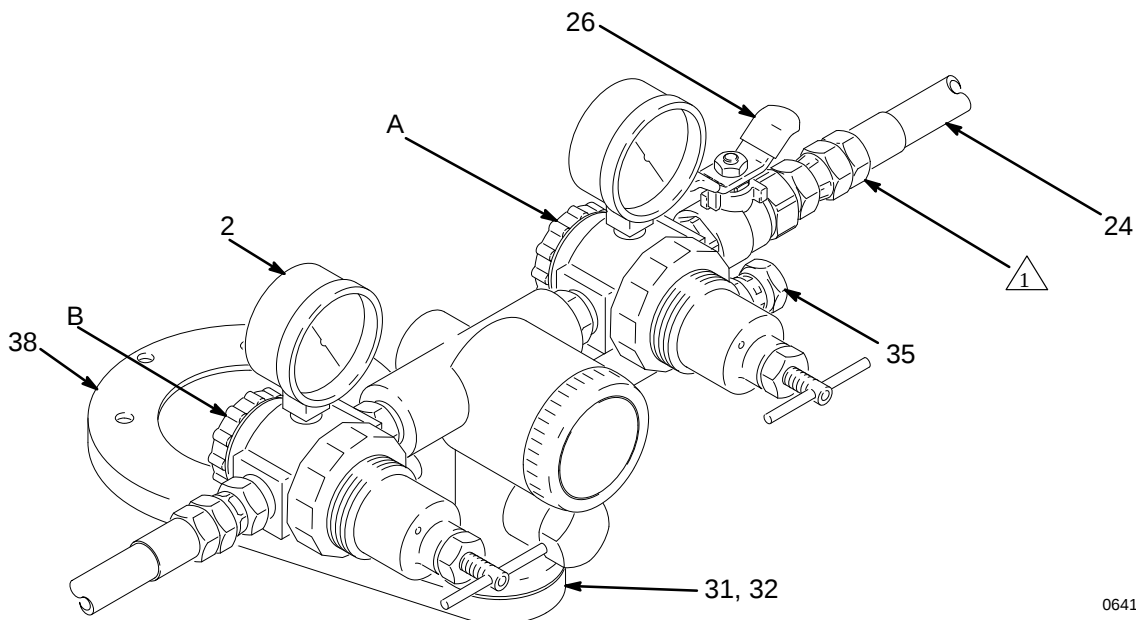

Fig. 1
Note: Numbers and letters in parenthesis in the text refer to callouts in Fig. 1 and the parts drawing.
1. Mount the Evenflo® Control. (See Fig. 1)
- a. To mount the Evenflo® Control to the pump, use screws (28) to attach the mounting plate (38) to the pump base. Remove the screw (31) and lockwasher (32) from the control (1), and position the control over the small hole of the plate. Secure the control to the plate with the screw and lockwasher.
- b. To mount the Evenflo® Control directly to a covered drum, remove the screw (31) and lockwasher (32) from the control (1), and mount it directly to the cover
2. Connect the ball valve (26) and the air supply hose (24) to the right hand regulator (A). Connect the other end of the hose to the pump's air inlet.
3. Connect an air supply hose to the 1/2 npt(f) air inlet fitting (35).
4. Connect an air atomizing hose (C) between the 3/8 npt(f) swivel union of the left hand regulator (B) and your spray gun.
1. With the air supplied to the pump and the spray gun, and the pump relax-a-valve set in the auto-matic position, open the by-pass valve (2) four full turns from the closed position. See Fig. 1